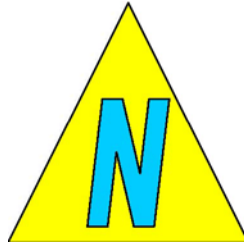

Figure 1
3.5.2.3 Targets - Targets will be constructed of plywood of a given size, basic geometric shape, and color; for an example, see Figure 1. Each target will be a different shape and a unique color; a different color alphanumeric will be painted on each target. There are an unknown number of targets in the area. The additional target will be more reflective of a realistic surveillance target. The minimum dimension of the targets (length or width) will be 4 feet, and the maximum dimension will be 8 feet. Alphanumerics will be sized to fit within the overall dimensions of the target.